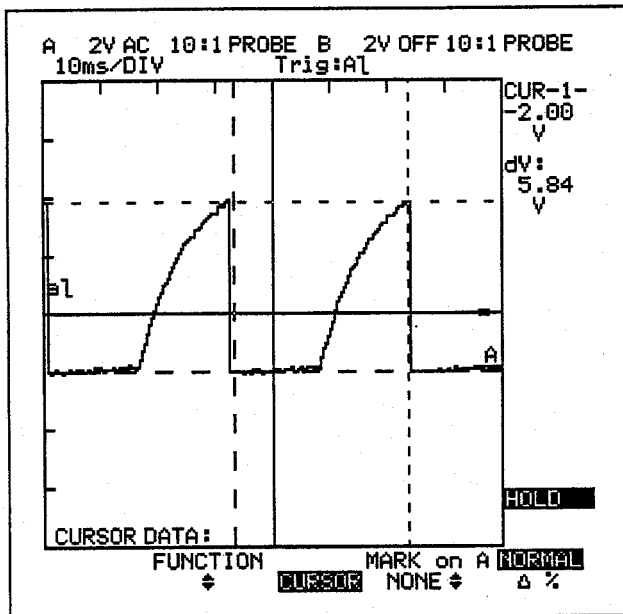

Figure 6.20
- Use **CURSOR 1** and **CURSOR 2** to horizontally position cursors exactly as shown in Figure 6-20.